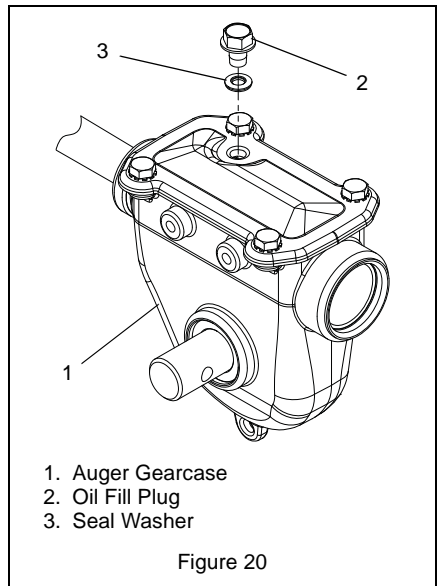

Figure 20
(Figure 20)
1. Remove oil fill plug and seal washer (Figure 20). Lubricant must be 2.38 – 2.63" (6.05 – 6.68 cm) from the flat surface of the gear case cover.
**IMPORTANT:** Be sure to install seal washer with rubber side down (Figure 20).